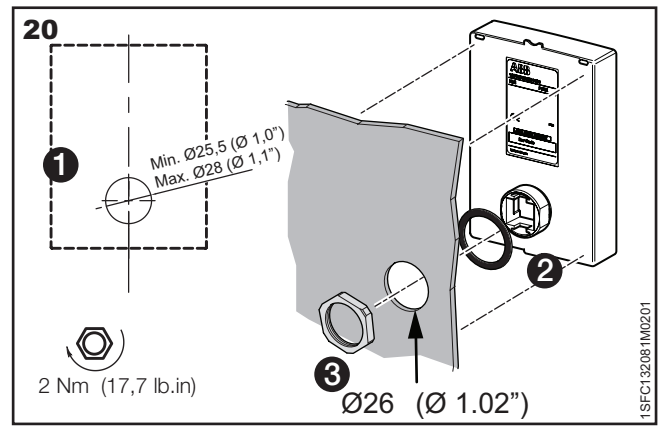

Figure 20: Drill a hole for the detachable keypad
1. Remove the detachable HMI from the softstarter by unsnapping the plastic latch under the detachable HMI, see ① and ② in **Figure 20**.
2. Drill a hole where the detachable HMI is to be mounted. Maximum size of the hole is Ø26 (Ø 1.02"), see ① in **Figure 20**. Put the rubber packing around the threaded network connector on the detachable HMI, see ② in **Figure 20**. Press the threaded network connector through the drilled hole. See ③ in **Figure 20**. Fasten the plastic screw-nut on the threaded network connector, with 2 Nm (17.7 lb/in).